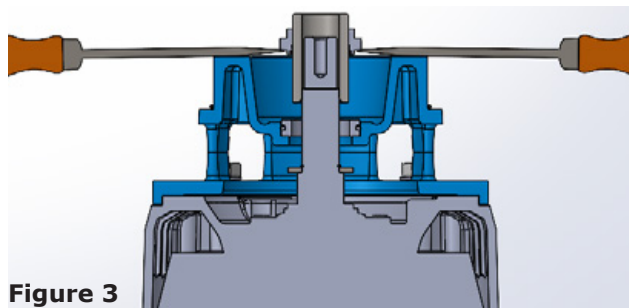

Figure 3
10. Pry the rotating member of the seal the rest of the way off the motor shaft using two screwdrivers 180 degrees apart under the seal face (Figure 3).